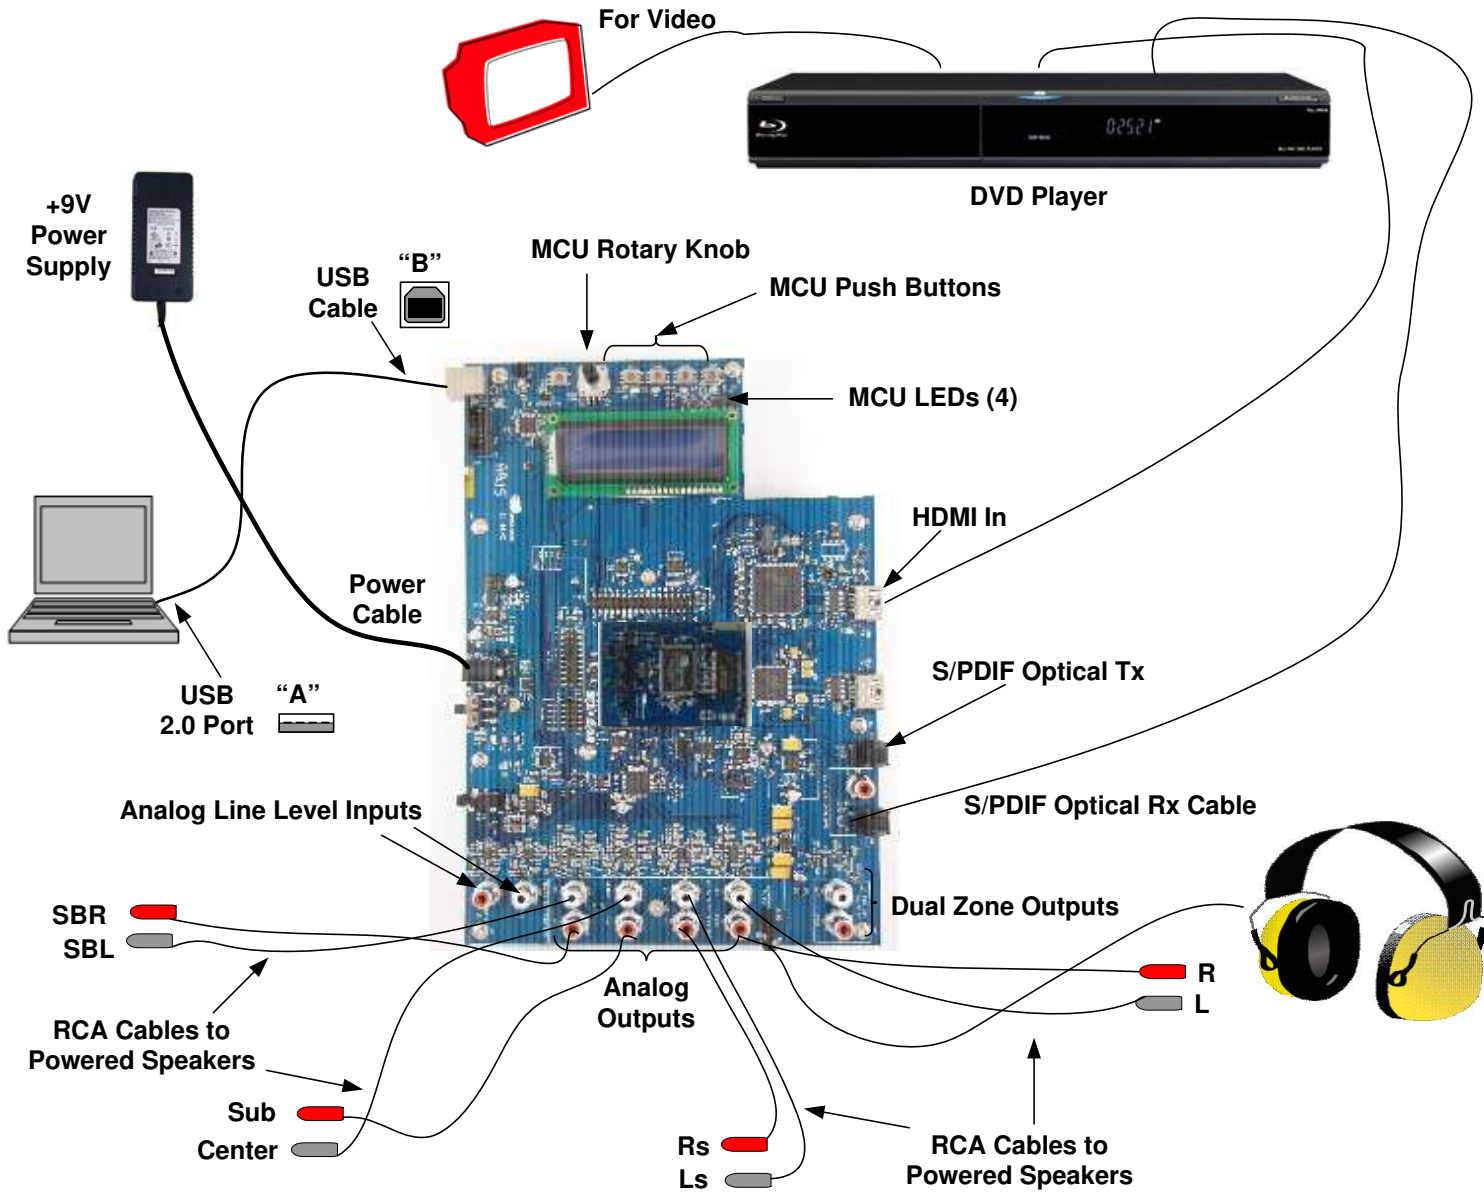

Figure 3-1. Board Setup and Connection Diagram
3. Connect the power supply jack to the CK49x Evaluation System as shown in Figure 3-1 and the adapter to a wall power socket or power strip.
- Use the RCA audio cables to connect the line-level analog outputs to powered speakers as shown in Figure 3-1.
To play multi-channel PCM via HDMI, follow the configuration and connections shown in Figure 3-1.
To play audio via Stereo Analog input, follow the configuration shown in Figure 3-1.